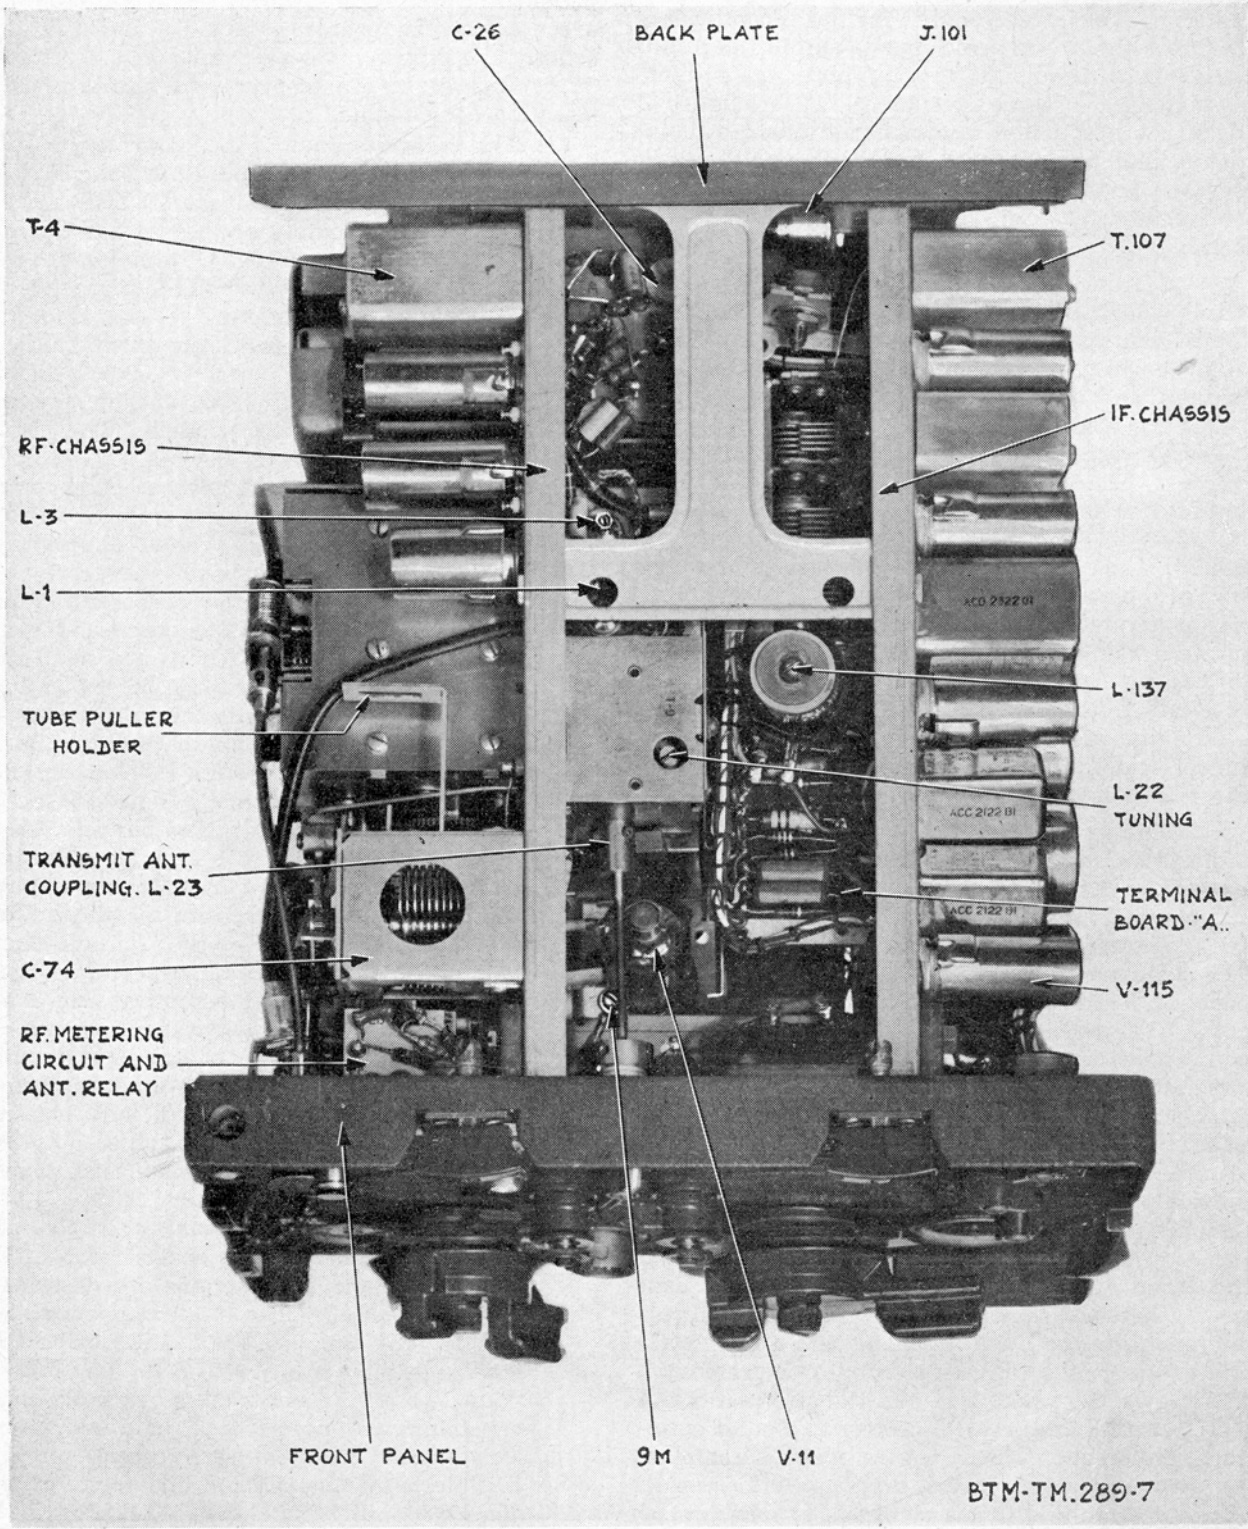

Figure 4. Typical receiver-transmitter, case removed, top view of panel and chassis assembly.
c. Figures 4 through 7 show a typical panel and chassis assembly removed from the case. The receiver-transmitter consists of three separable sub-chassis (fig. 34), namely: a front panel, an r-f (radio-frequency) chassis and an i-f chassis. The r-f chassis mounts the h-f (high-frequency) parts of both the transmitting and receiving circuits. The receiver i-f components and the audio components of both the transmitter and receiver are mounted on the i-f chassis. Both chassis are attached to projections at the rear of the front panel by means of screws and are so arranged that all internal tuning adjustment controls, tubes, and plug-in parts are accessible without disassembly of the unit. No solder connections are made between the r-f and i-f chassis or between these chassis and the front panel. Multiconnectors establish continuity between the chassis and the panel controls and connectors. Two side plates and a back plate add to the rigidity of the assembly. By removing the screws, the back plate, and the side plates and disconnecting the multiconnectors and shaft couplings, either one or both chassis may be removed for maintenance purposes. An important feature of the assembly is that a complete chassis can be substituted if either the r-f or i-f chassis of the
- b. Tube puller (fig. 4).